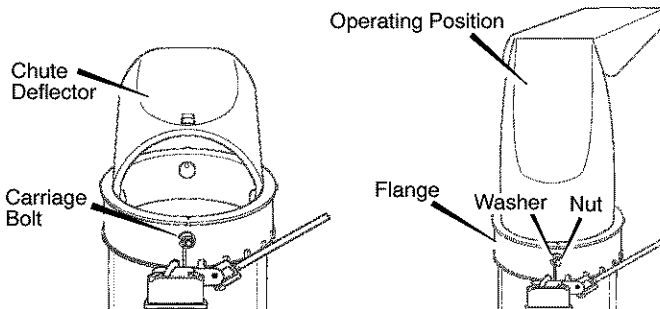

Figure 12
1. Remove the **carriage bolt**. See Figure 12.